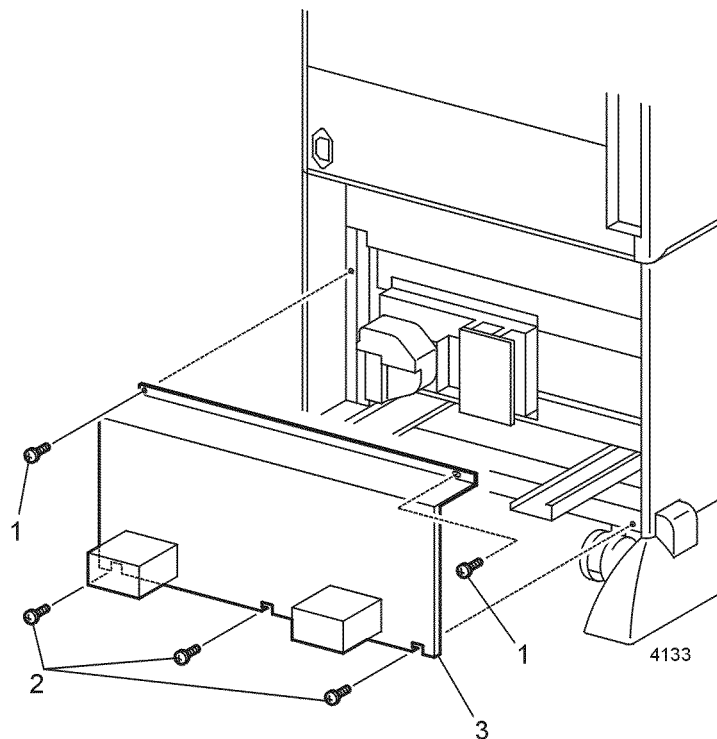

Figure 1 Lower Rear Cover
2. Loosen three screws that secure the Lower Rear Cover (Figure 1).
3. Remove the cover (Figure 1).